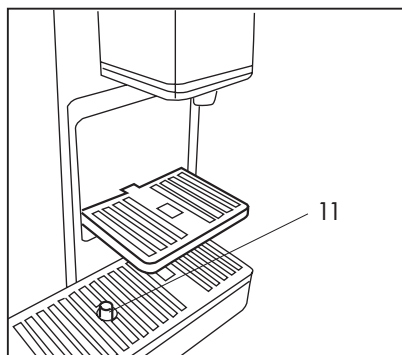

Fig. 18
When the red level float in the tray (11) protrudes from the hole (Fig. 18) it means that the water collected in the drip tray is exceeding the maximum level.